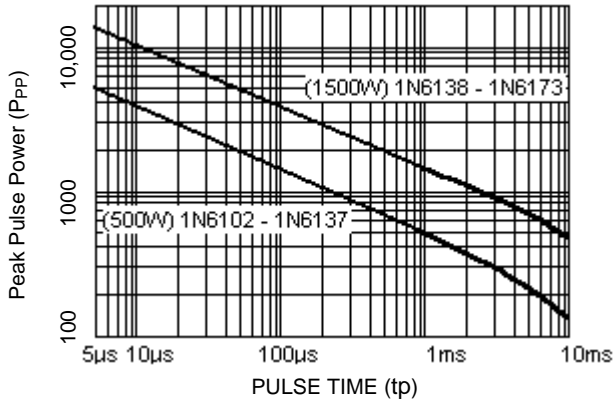

FIGURE 1
- Peak Pulse Power (P_{PP}) at 25°C : 500 W for 1N6103US to 1N6137AUS and 1500 W for 1N6139US to 1N6173AUS @ 10/1000 μs (also see Figures 1,2 and 3)